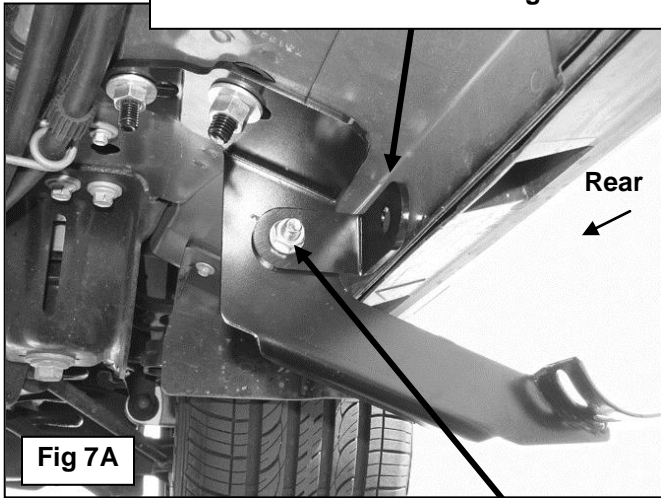

Fig 7A
5. Select the driver side rear Mounting Bracket and (1) "L" Rear Support Bracket. Bolt the Support Bracket to the front facing side of the Mounting Bracket with (1) 10mm x 30mm Hex Bolt, (2) 10mm x 20mm Small Flat Washers and (1) 10mm Nylon Lock Nut, **(Figures 7A & 7B)**.